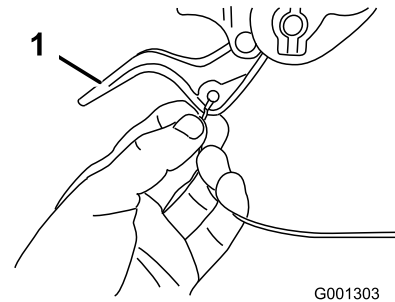

Figure 6
2. Route either the left or right cable end over the lower handle and insert the cable end into the hole in the corresponding wheel-clutch lever (Figure 6).